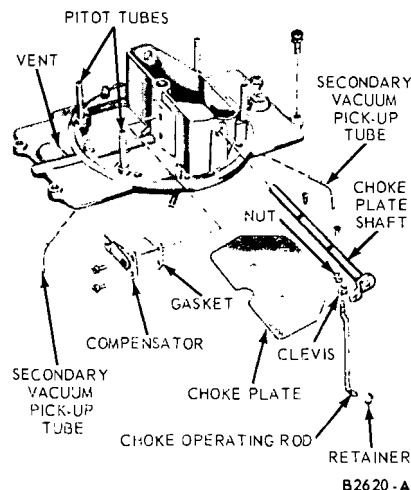

FIG. 12—Air Horn Assembly
2. Remove the choke plate operating rod to choke lever retainer (Fig. 12).